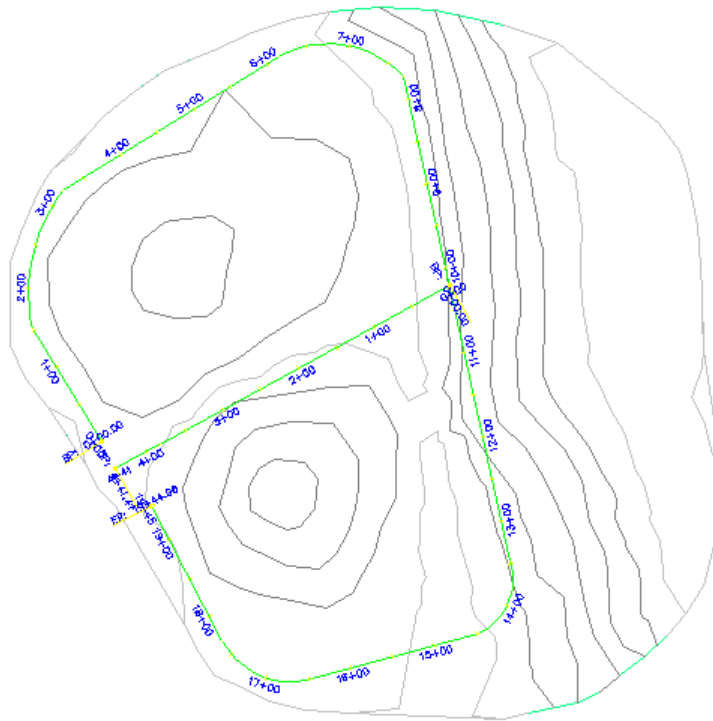

Figure 6-38 The view of surface (Surface 1) and the alignments
2. Browse to the required location where you have saved the *civil-3d-2009-c06-tut-1.dwg* and choose the **Open** button to open the file. The file consists of a surface (**Surface 1**) and two alignments, **L Street** and **L Street (1)**, as shown in Figure 6-38.